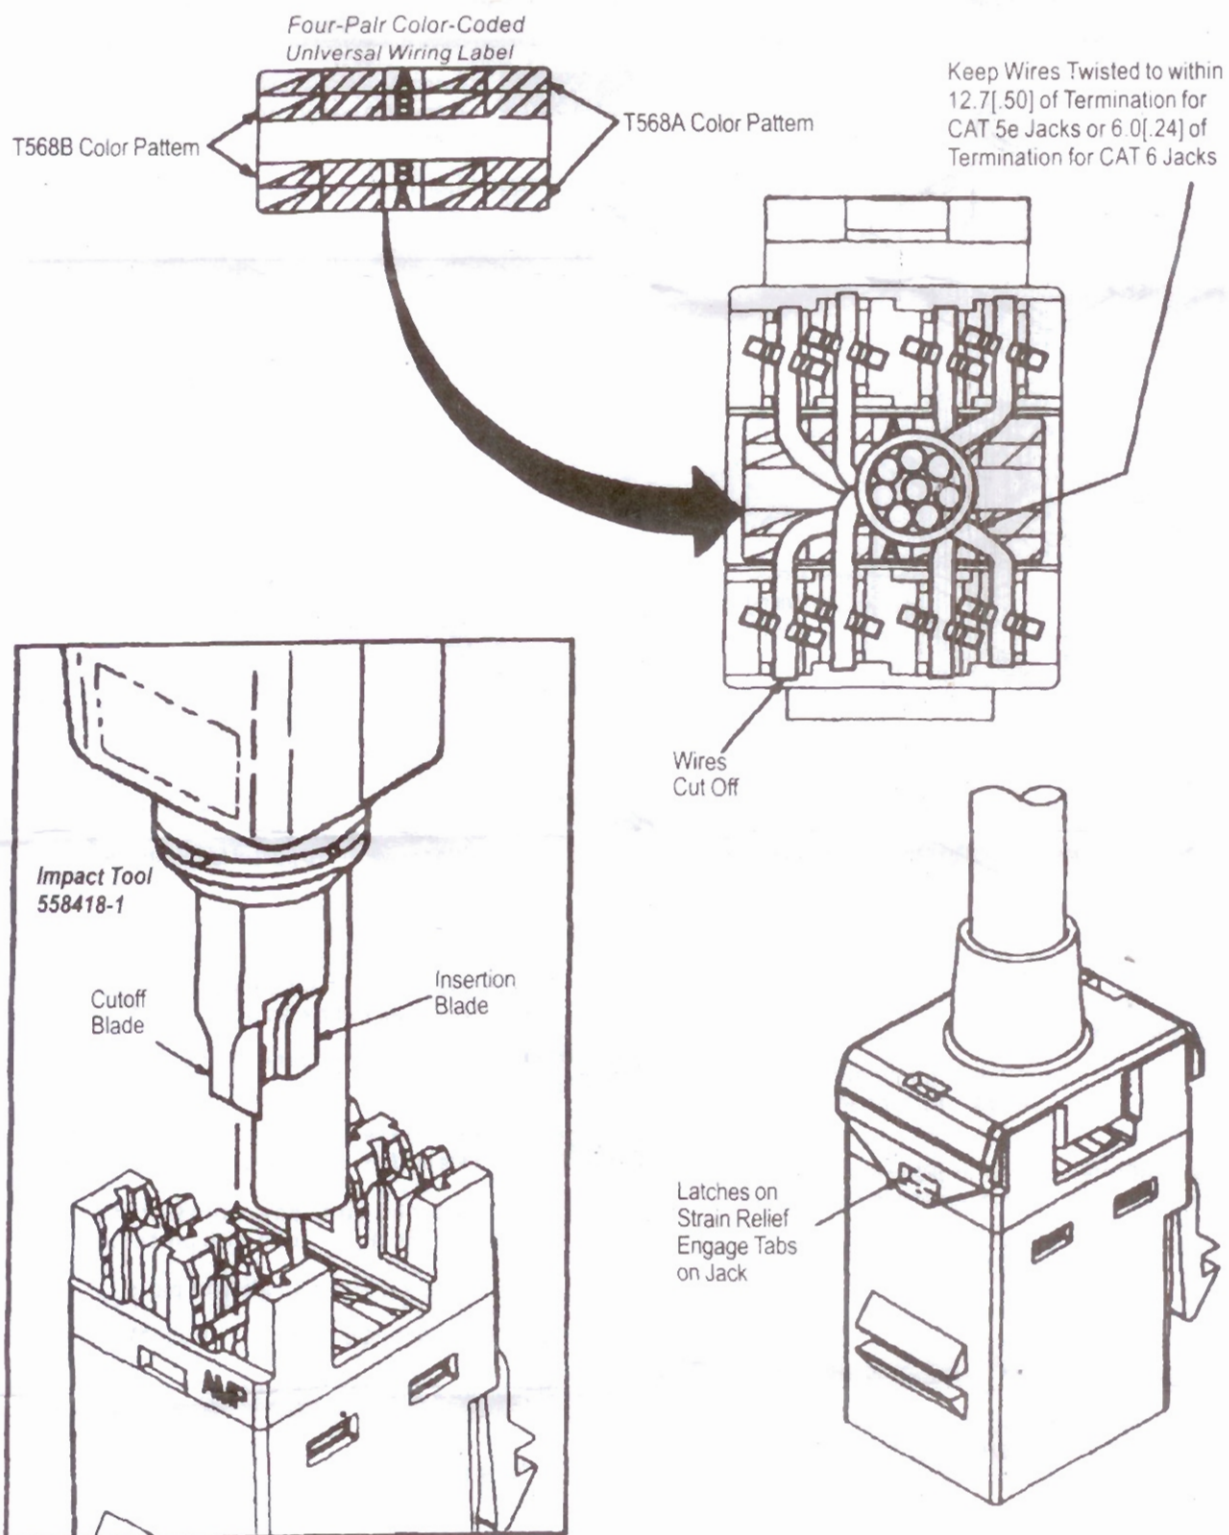

Figure 3
2. Align and lace a color-coded wire pair with the appropriate slots as indicated by the color coding on the wiring label (use minimum slack while maintaining twist, as indicated in Figure 3).
5. Slide bend-limiting strain relief (if used) onto jack. Latches on strain relief will engage tabs on rear of jack as indicated in Figure 3.